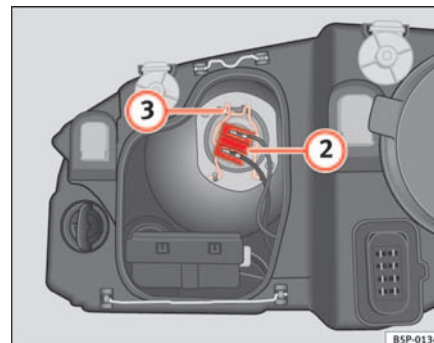

Fig. 182 Dipped head-lights
- Remove the connector ⇒ page 251, fig. 182 ② from the bulb.
- Disengage the retainer spring ⇒ page 251, fig. 182 ③ pressing inwards and to the right.